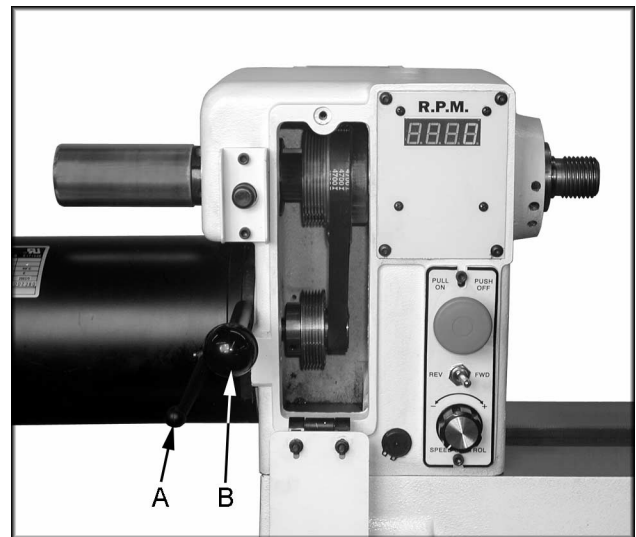

Fig. 11
2. Loosen the locking handle (A, Fig. 11).
3. Lift up on the tensioning handle (B, Fig. 11) to remove tension from the poly v-belt. You can now position the belt in the desired speed range. It is pictured in the low speed pulley range. **Note:** The “High” speed range (120-3200) provides maximum speed, where as the “Low” speed range (50-1200) will provide maximum torque.